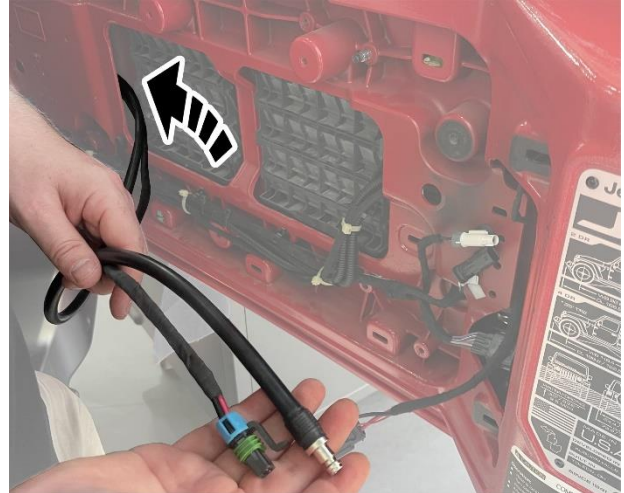

Figure 13 – Wire and Hose Routed
- 24. Working on the inside of the swing gate, cut the Ty strap and reroute the air hose and electrical connector as shown (Figure 13).